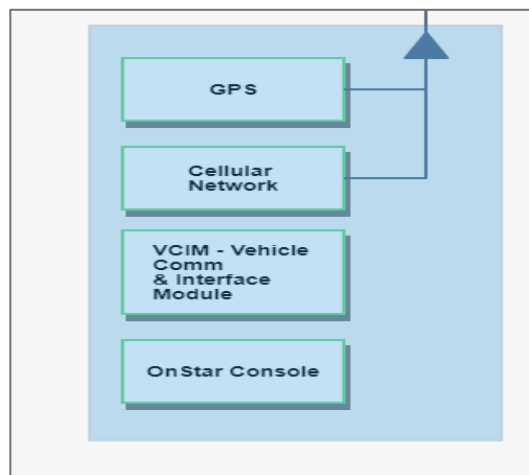

Figure 28. Lasso selection is done by holding the Shift key and dragging the mouse over the area containing the elements to be selected.
(2) **Lasso**: Hold the Shift key, select all the four-part objects by a lasso (Figure 28), and draw a link from the **OnStar System** to one of the things in the selected group.